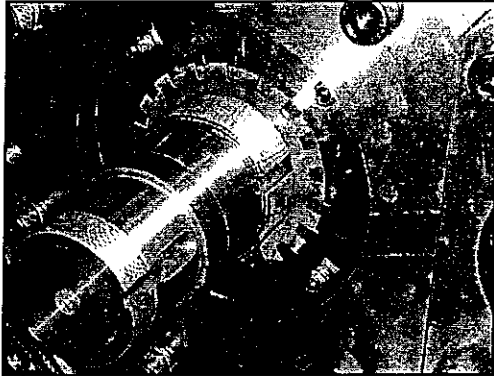
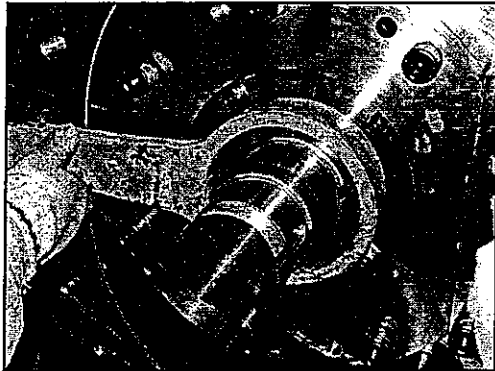

Fig. 3-28
Fig. 3-29
- (15) Combine Thrust Bearing Box Cover (C07), (C08) with Bush (C19), (C20) and inactive side Thrust Bearing (C15), (C16).
- (17) Fix the Sleeve (A05), (A06) by Lock Nut (K31), (K32) (Fig. 3-29) and Lock Washer (L21), (L22) (Fig. 3-28, 3-30) using special tool.